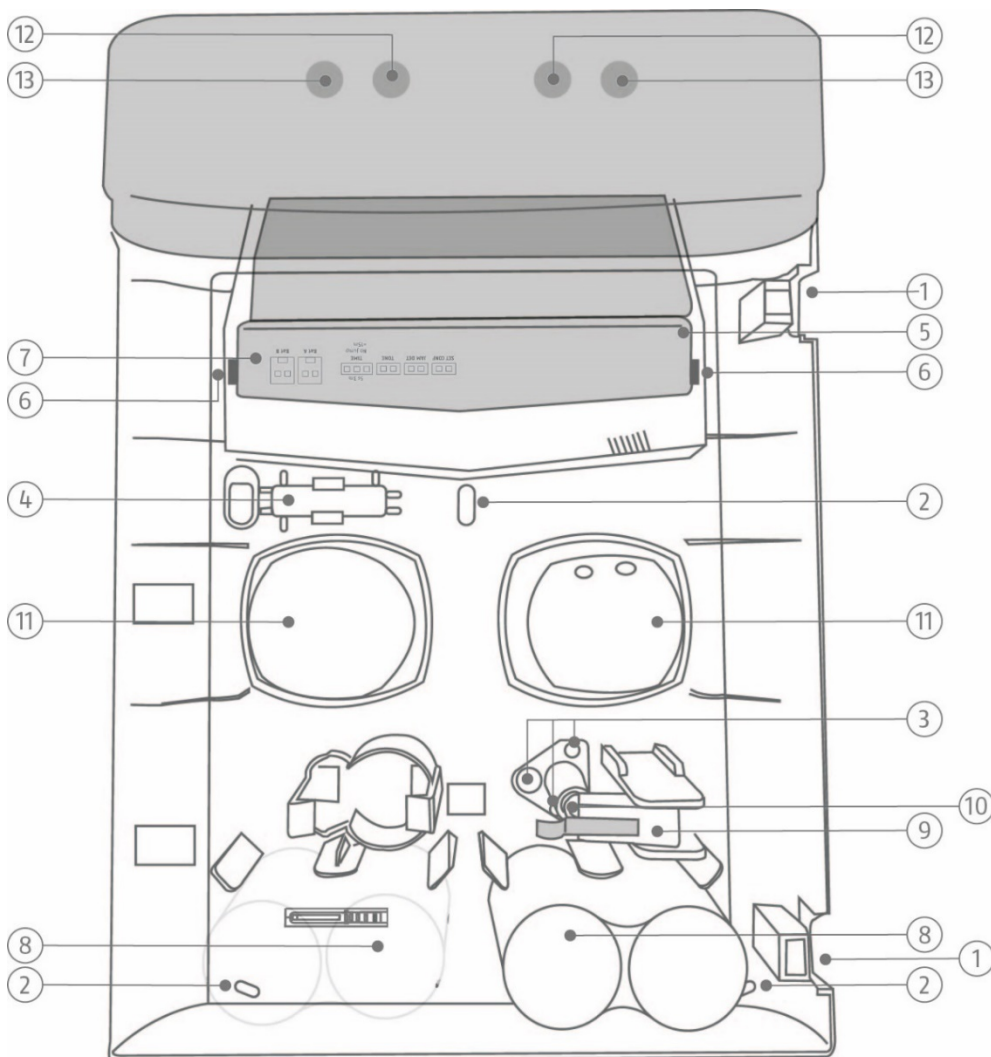

Figure 1: Overview of the sounder
- Open the two covers for the two lid-fixing screws (see Fig. 1).
- Remove the jumper/connector cover (see Fig. 1) by pushing the two fixing tabs (see Fig. 1) outwards and lifting up the cover at the same time.
- Press the tamper switch (see Fig. 1).